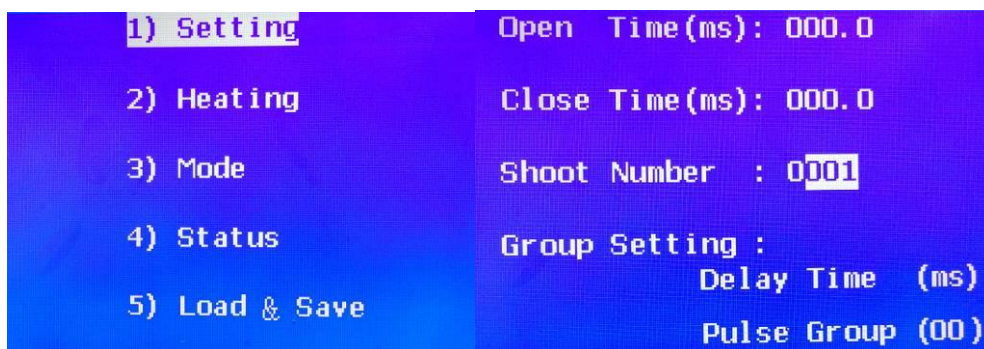

Fig. 10 Numerical Settings Sub-menu
2. Use the up / down buttons to select corresponding number for the "Shoot Number" parameter (all figures are highlighted). Then press ENTER to start edit mode. The most significant digit should now be de-highlighted (see figure 10 below);